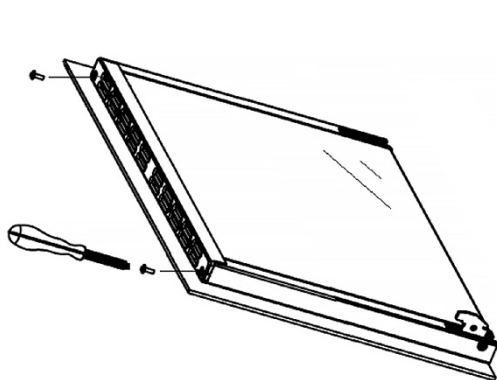

Fig. 3
1. Undo the 2 screws on upper bracket. (Fig.3)